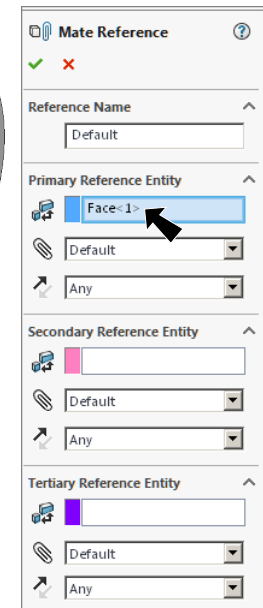

Fig. 22
Step 3. In the Mate Reference Property Manager click OK , **Fig. 22**.